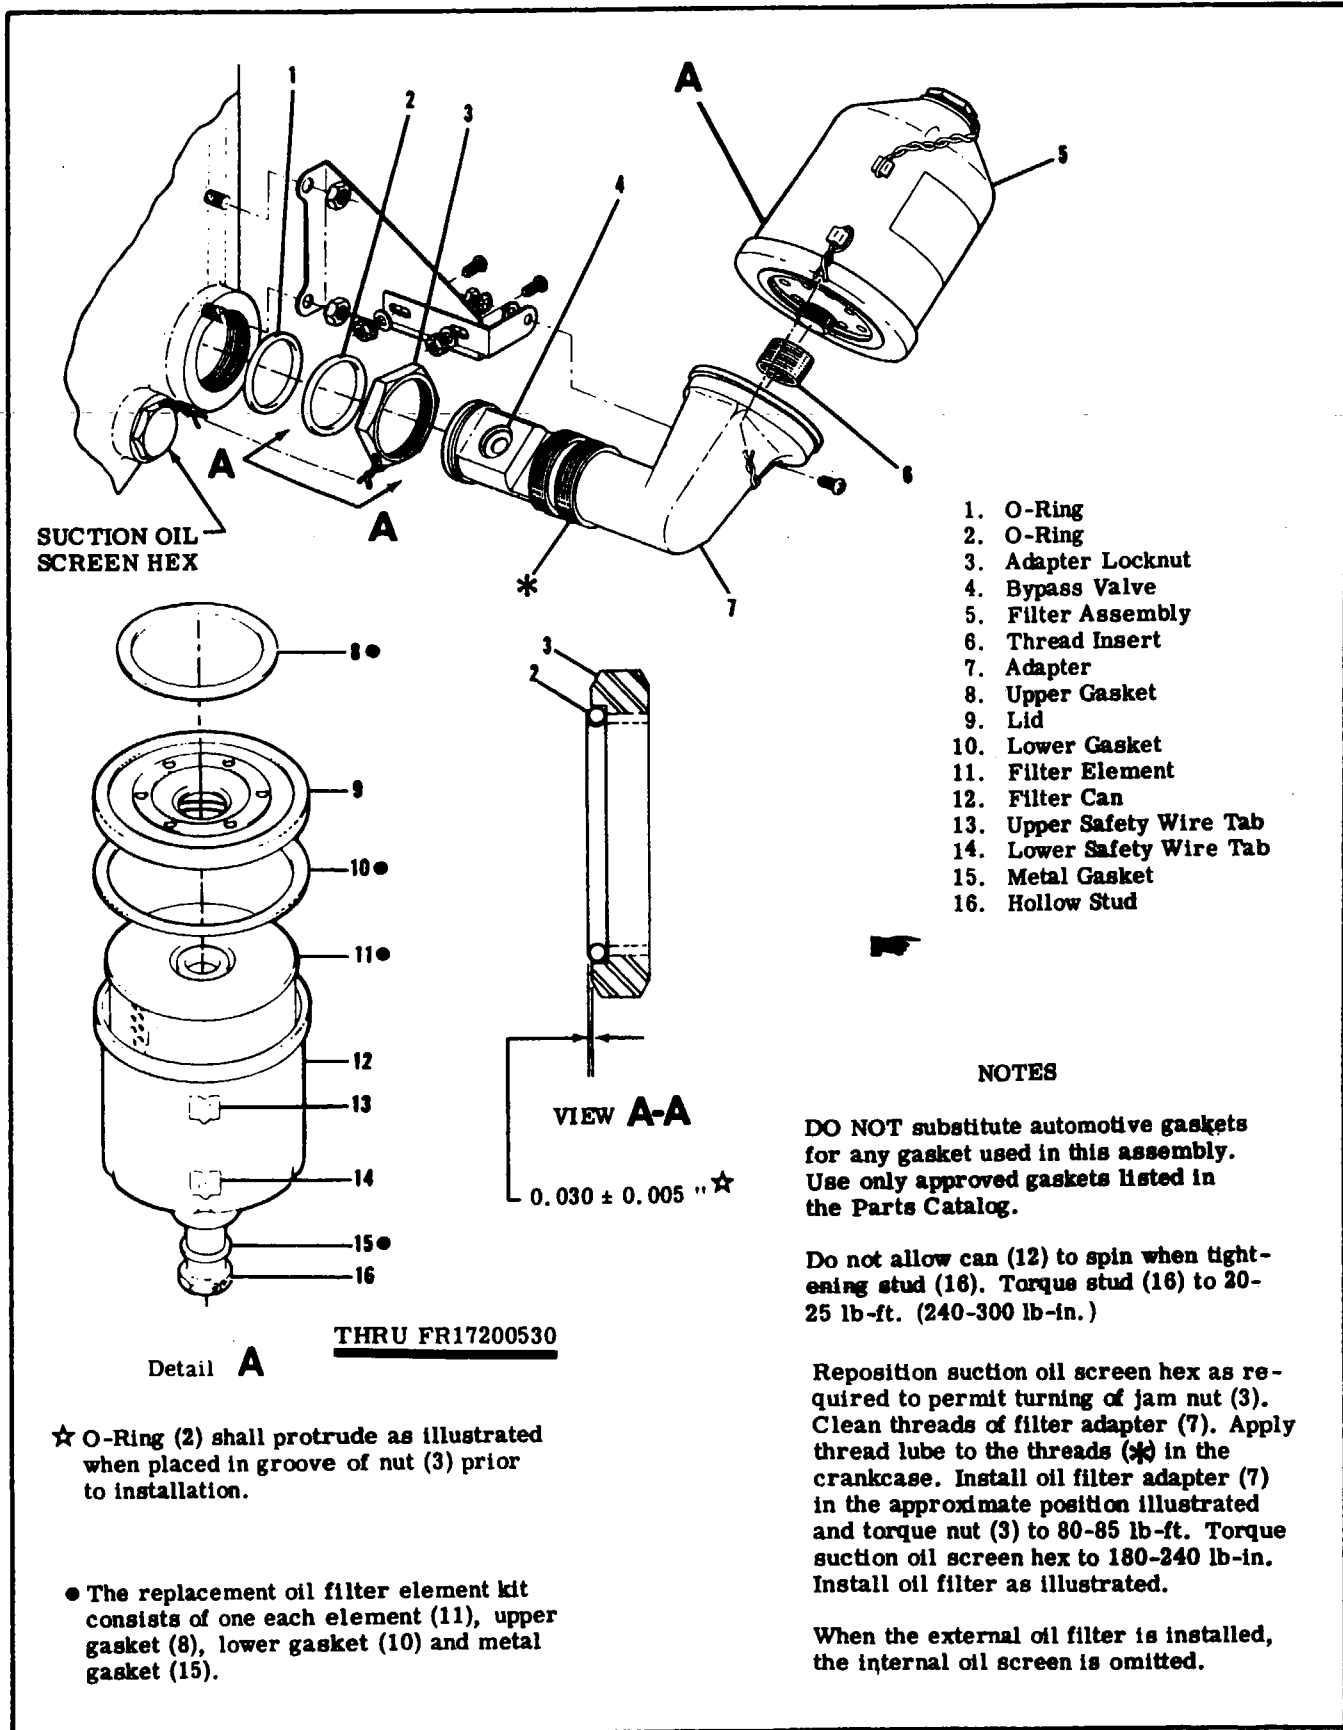

Figure 11-6. Full-Flow Filter (Element Type)
(Refer to figure 11-6.)
**11-46. REMOVAL (ADAPTER).** (Refer to figure 11-6.)
11-47. **DISASSEMBLY REPAIR AND ASSEMBLY (ADAPTER).** Figure 11-6 shows the relative position of internal parts of the filter adapter and may be used as a guide during replacement of parts. The bypass valve may be replaced as a unit, being staked three places at installation. Inspect that bypass valve is not held open by carbon or other foreign material. The heli-coil type thread insert in the adapter may be replaced, although special tools are required for installation. Follow instructions of the tool manufacturer for their use.
11-48. **INSTALLATION (ADAPTER).** (Refer to figure 11-6.)